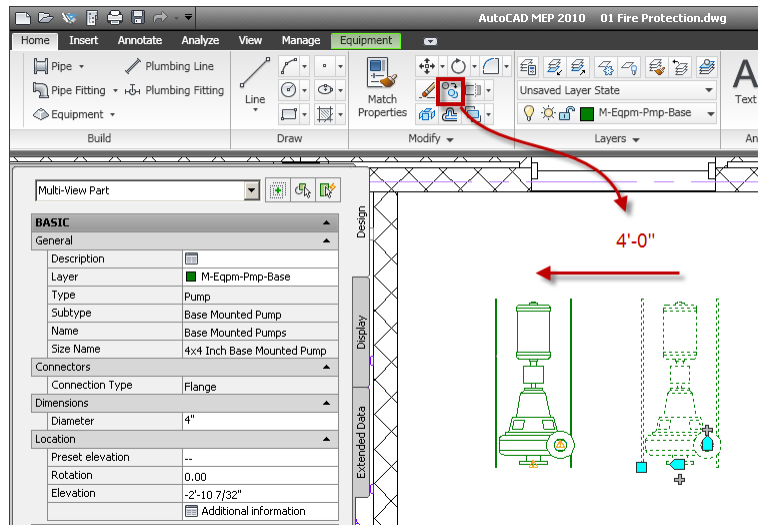

Figure 6.37
11. Click any basepoint, move the cursor to the left (make sure ortho is on with the F8 key), type **4'-0"**, and then press ENTER. Press ENTER again to complete the command (see Figure 6.37).